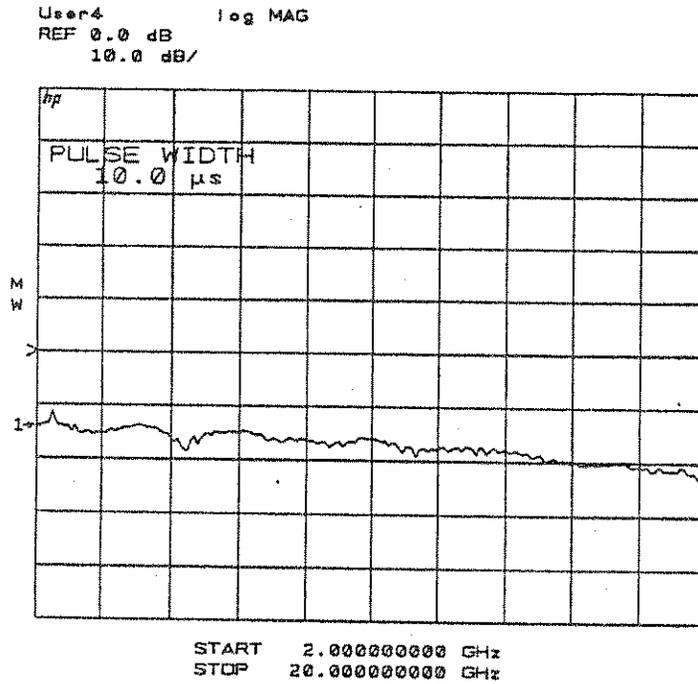
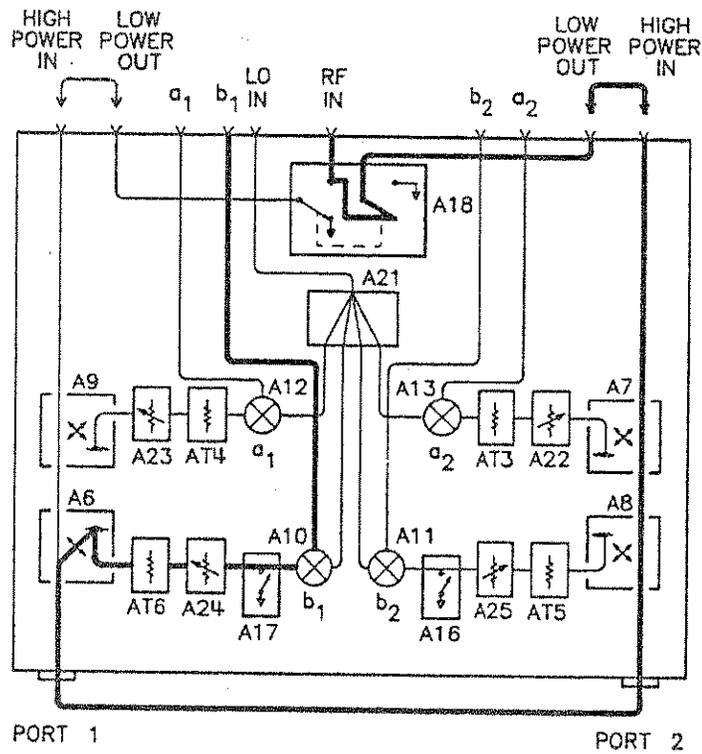

Figure 5-7. Typical b1 Thru Signal Trace
Figure 5-7a. b1 Thru Signal Path
7. Press PARAMETER [MENU] [USER 4 b1] [REDEFINE PARAMETER] [DRIVE] [PORT 2] [PHASELOCK] [a2] [REDEFINE DONE] and observe the b1 power level trace shown by Figure 5-7. If the power level is not within +5 dB of that shown in the figure, refer to the procedure titled *If Any User Channels Look Bad* at the end of this section. Figure 5-7a identifies the RF signal path and components which affect the b1 thru signal path.